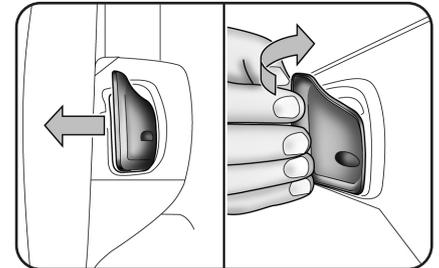

fig. 10
- steering wheel lever + (pulling lever towards driver, see fig. 10): engage higher gear;
- steering wheel lever – (pulling lever towards driver, see fig. 10): engage lower gear.